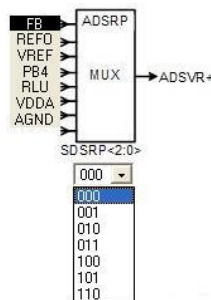

Figure 45
- (1) Click the specified network name with mouse left key, AD1RH can select to that network
- (2) Click the specified network switch with mouse left key , AD1RH can select to that network
- (3) Figure 45 will show up by clicking mouse left key, then users can select the switch network